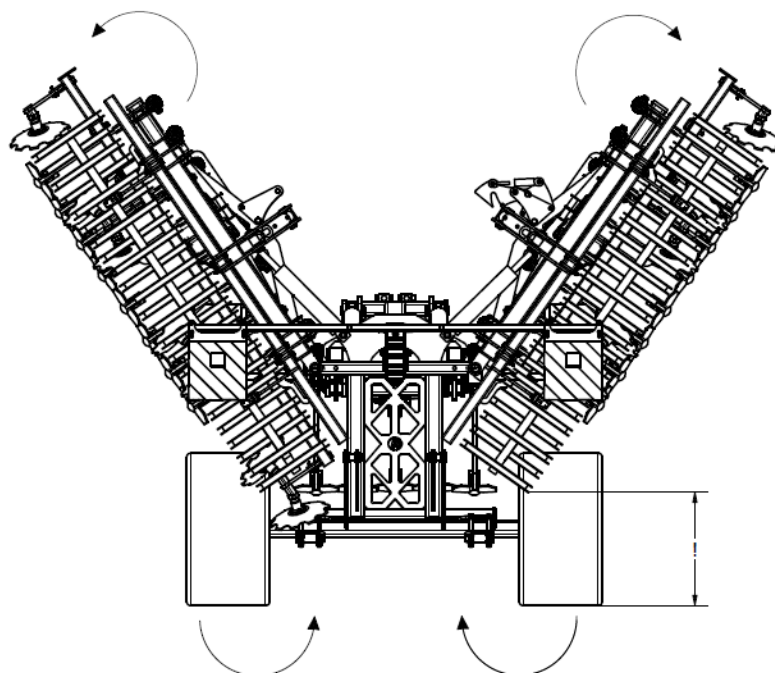

Fig. 15 Implement opening sequence: open the implement paying particular attention to the height of the arm ends from the ground.
4. When opening the implement's side extension arms, make sure that the ends of the arms are at the correct height to prevent them from snagging on the ground (Fig. 15).